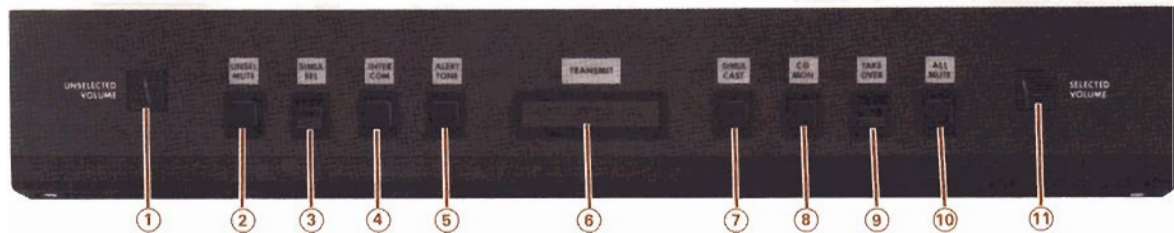

Figure 2
- ⑫ SELECT switch, when depressed, activates its Channel Module, routes received audio to the Selected Speaker, enables transmitter to be keyed by the TRANSMIT BAR (Figure 2) and deactivates a previously selected Channel Module.
- ⑬ CALL portion of the split-screen display flashes when audio is present on the incoming line.
- ⑭ MUTE switch, when depressed, partially mutes the received audio on its channel and illuminates the MUTE portion of the display. Available with either on/off or timed muting.
- ⑮ The XMIT half of this display illuminates (in red) when the adjacent red push-button ⑯ is used to key its transmitter or when the TRANSMIT BAR ⑥ (Figure 2) is pushed while the channel SELECT switch ⑫ is activated.